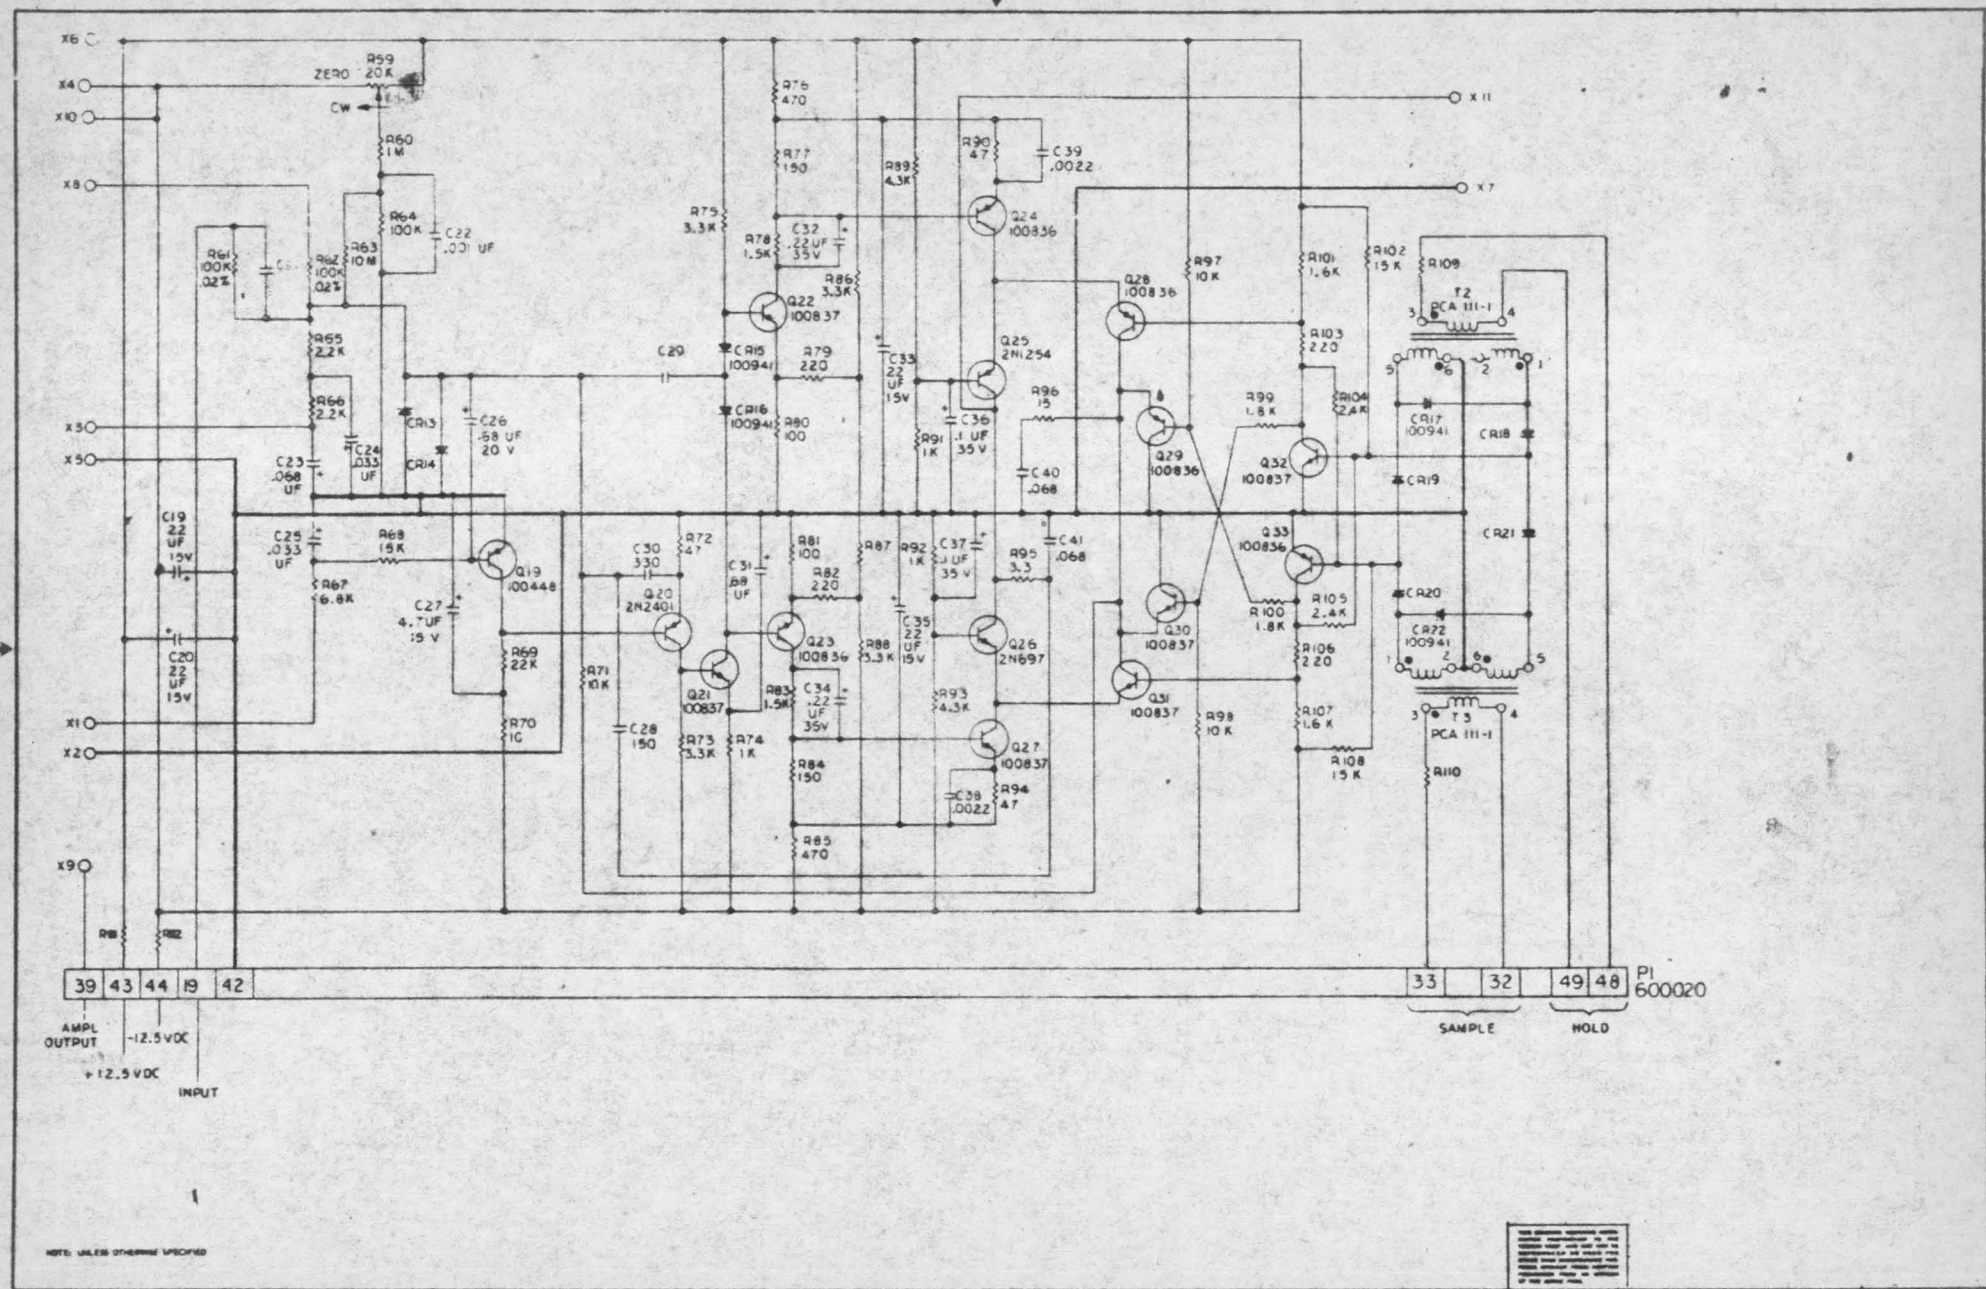

FIGURE 2.3a
2.9 Chopper Amplifier Circuit Analysis - The chopper amplifier (Figure 2.3a & b) consists of an input low pass filter, solid state chopper, chopper amplifier, demodulator and output low pass filter. The chopper and demodulator are in turn driven by a floating 6Kc/s square wave which is derived from rectifying and filtering the pulsed 2Mc/s blocking oscillator outputs of the secondaries of T_1 . The pulse rate is determined by a multivibrator running freely at approximately 6Kc/s.
applied to the base junction of Q11 & Q12. Balance between the two transistors is maintained by resistors R35 & R36. The square wave at the base alternately drives the transistors in phase with the signal at the common collector junction. Output from the emitter of Q12 is then applied to the output low pass filter circuit R25, R26, C3, C4 to the output terminal X1 and then to board #2, Figure 2.3a, via X1 and R67, R68 and C25.
2.13 Output Low Pass Filter Circuit - The output signal from Q12 is filtered by a network partially contained on board #1 and the other on board #2, the interconnection between the assemblies being made via X1, Figures 2.3a and 2.3b.